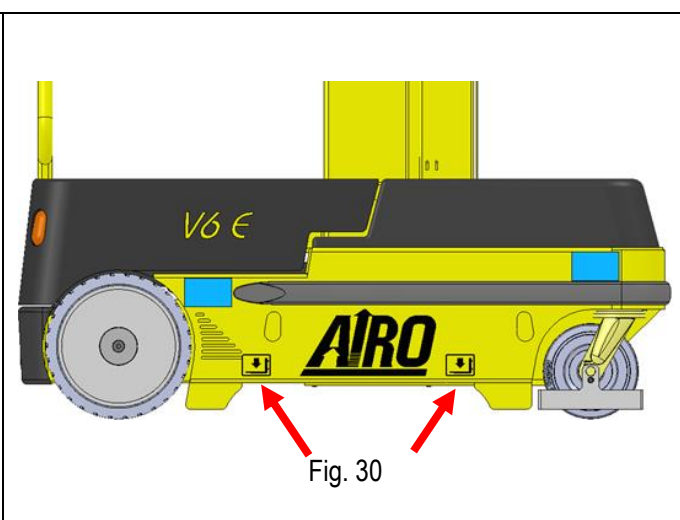

Fig. 30
- **Through a lift truck** of a suitable capacity (see machine weight in table “Technical features”) equipped with forks having at least the same length as the machine width. Insert the forks as indicated by the stickers on the machine Fig. 30. Should these stickers be not available, DO NOT lift the machine by means of a lift truck. Lifting the unit by means of a lift truck must be carried out by qualified operators.